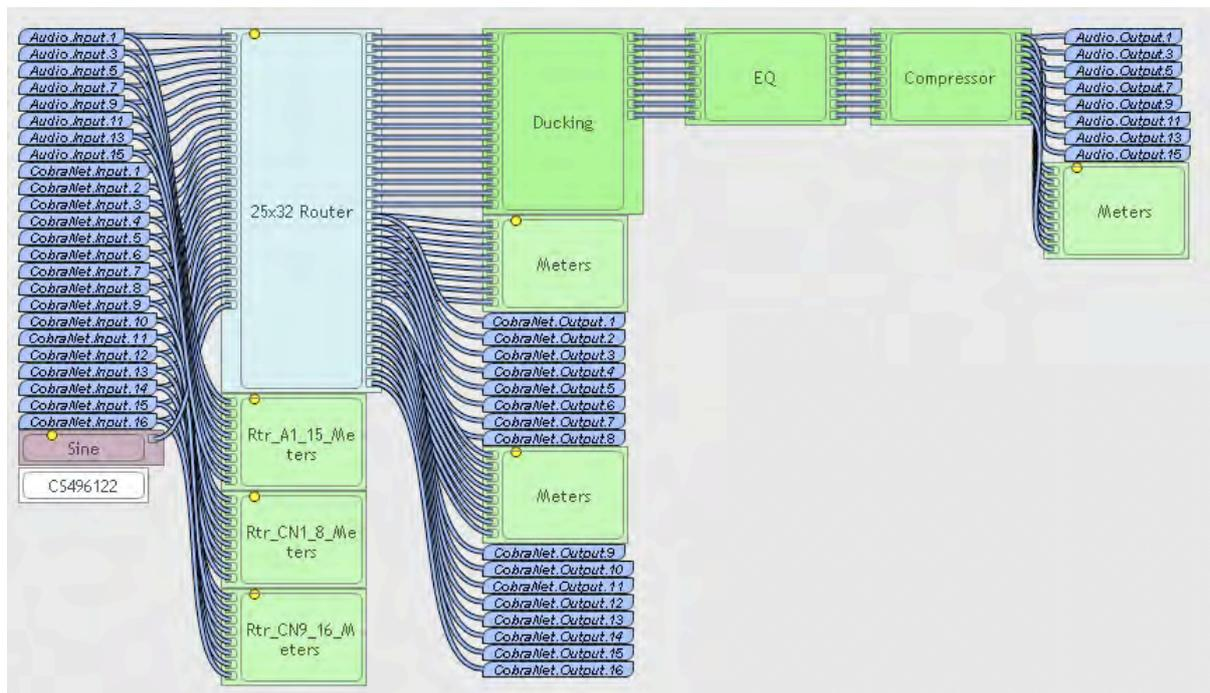

Figure 3-1: Block diagram showing the internal routing of the ION4.4/ION8.8
can be routed to any of the 4 (8) analog and 16 CobraNet™ outputs. See Figure 3-1 for details of the internal block diagram.